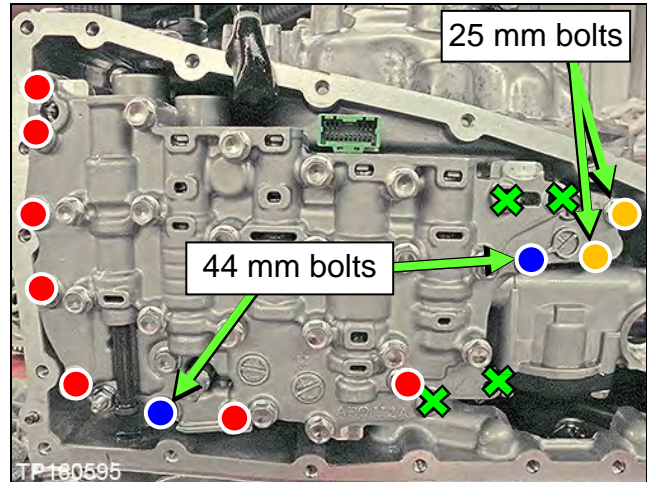
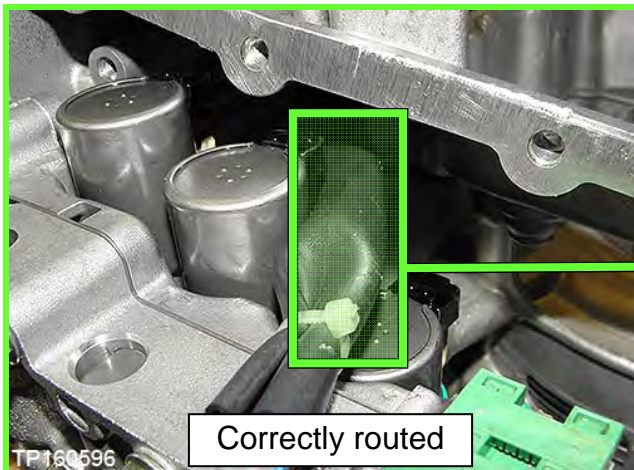

Figure 3J
Figure 4J
2. Install the Control Valve with eleven (11) mounting bolts (Figure 3J).
**IMPORTANT:** Leave four (4) ✘ bolt holes blank at this step.
**CAUTION:** Make sure the wiring harness does not get pinched (see Figures 4J and 5J for correct routing).